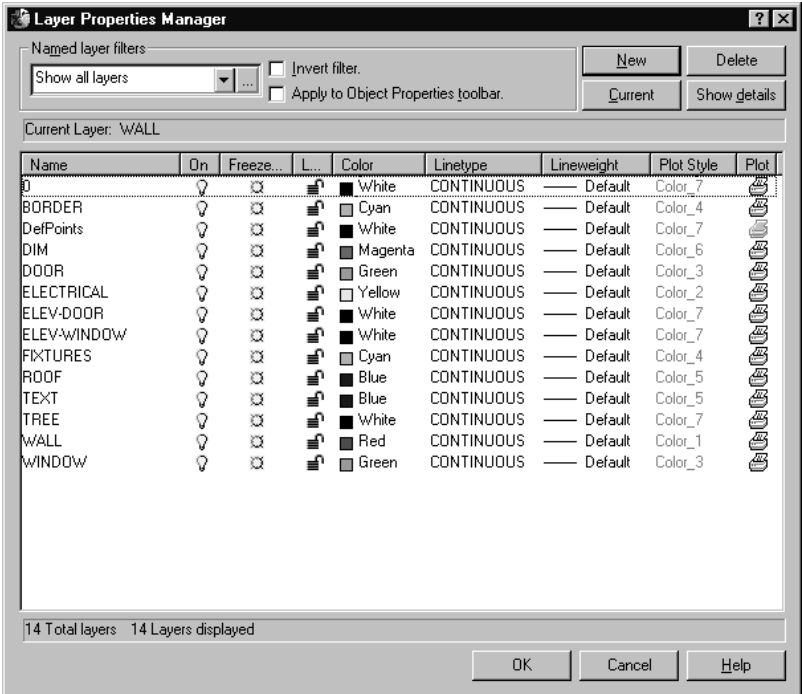

Figure 3-4
3. Now, you need to create a layer for the foundation plan elements. Pick **Layer** from the Format pull-down menu. The Layer Properties Manager dialog, shown in Figure 3-4, will come up.